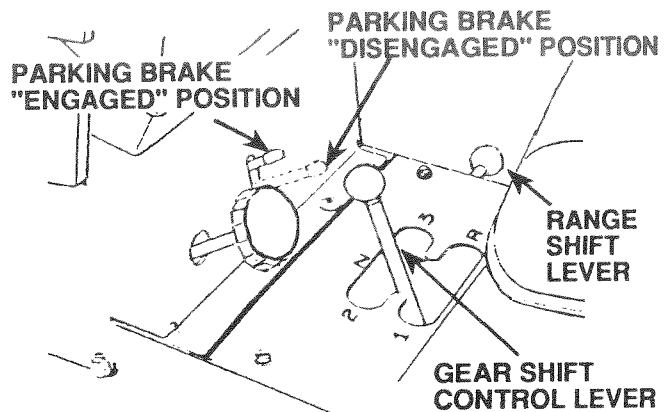

FIGURE 10
- Place Parking Brake (Fig. 10) in "ENGAGED" position and release pressure from Clutch/Brake Pedal should remain in "BRAKE" position. **NOTE: MAKE SURE PARKING BRAKE WILL HOLD TRACTOR SECURE.**
- Place Gear Shift Lever in "N" neutral, start position (Fig. 10).
- c. Move Gear Shift Lever to desired gear (Fig. 10).
- d. If stopping is absolutely necessary, push Clutch/Brake Pedal quickly to Brake position and engage Parking Brake (Fig. 10).